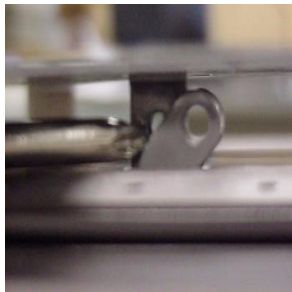

Figure 5:
7. Using a screwdriver, slide the locking tab to the left and push the end of the locking tab into the mounting slot in front of the front mounting tab on the bracket as seen in Figure 5.